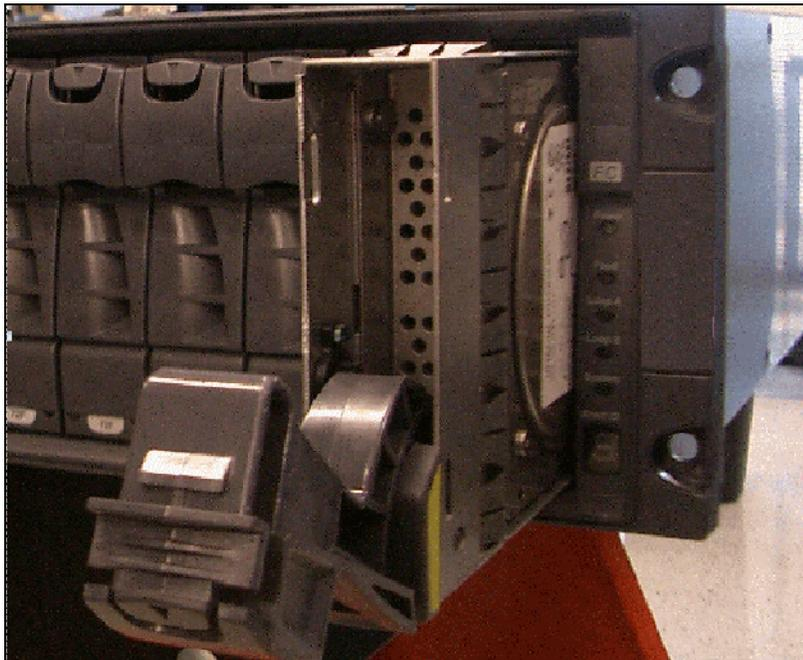

Figure 8-11 Remove disk drive from bay
3. Remove the disk gently from the bay (Figure 8-11).